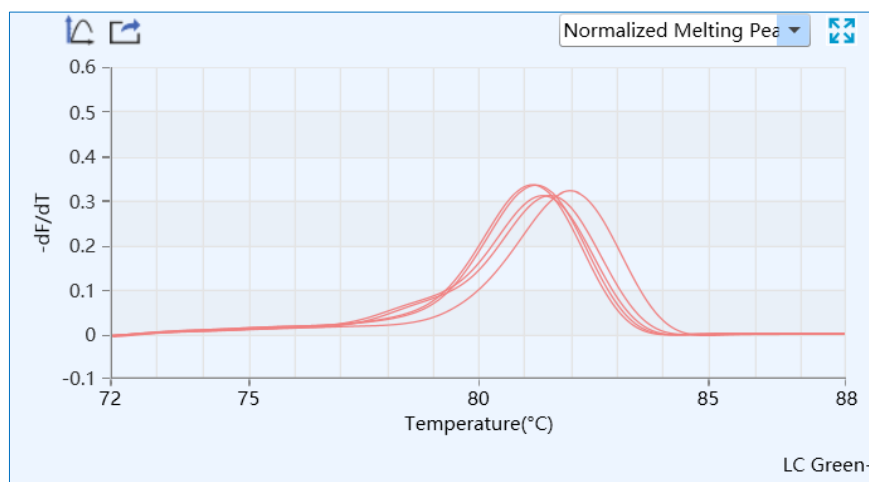

Figure D-14.4. HRM Analysis Interface - Normalized Peak Melting Functional Module
**IV. Normalized Melting Peak:** display the first negative derivative of the normalized melting curve, as shown in figure D-14.4. The melting temperature range of each sample appears as a peak after normalization, and optionally, temperature shift.